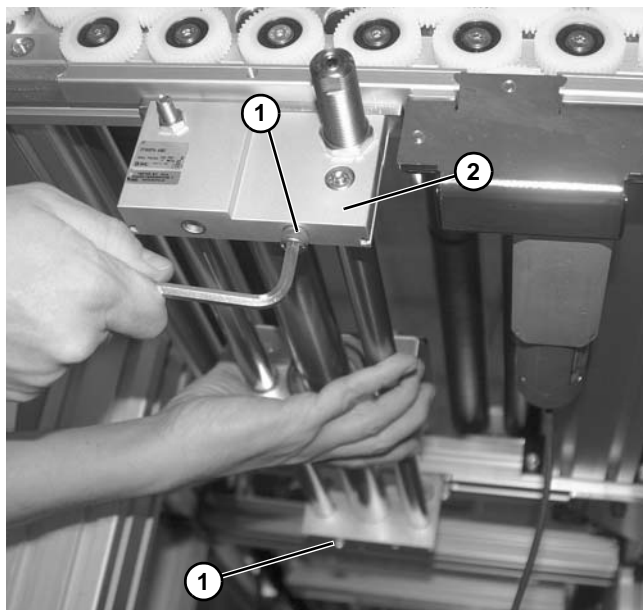

Figure 113
4. Remove socket head screw (Figure 113, item 1) on each side, and remove pallet pusher (Figure 113, item 2).